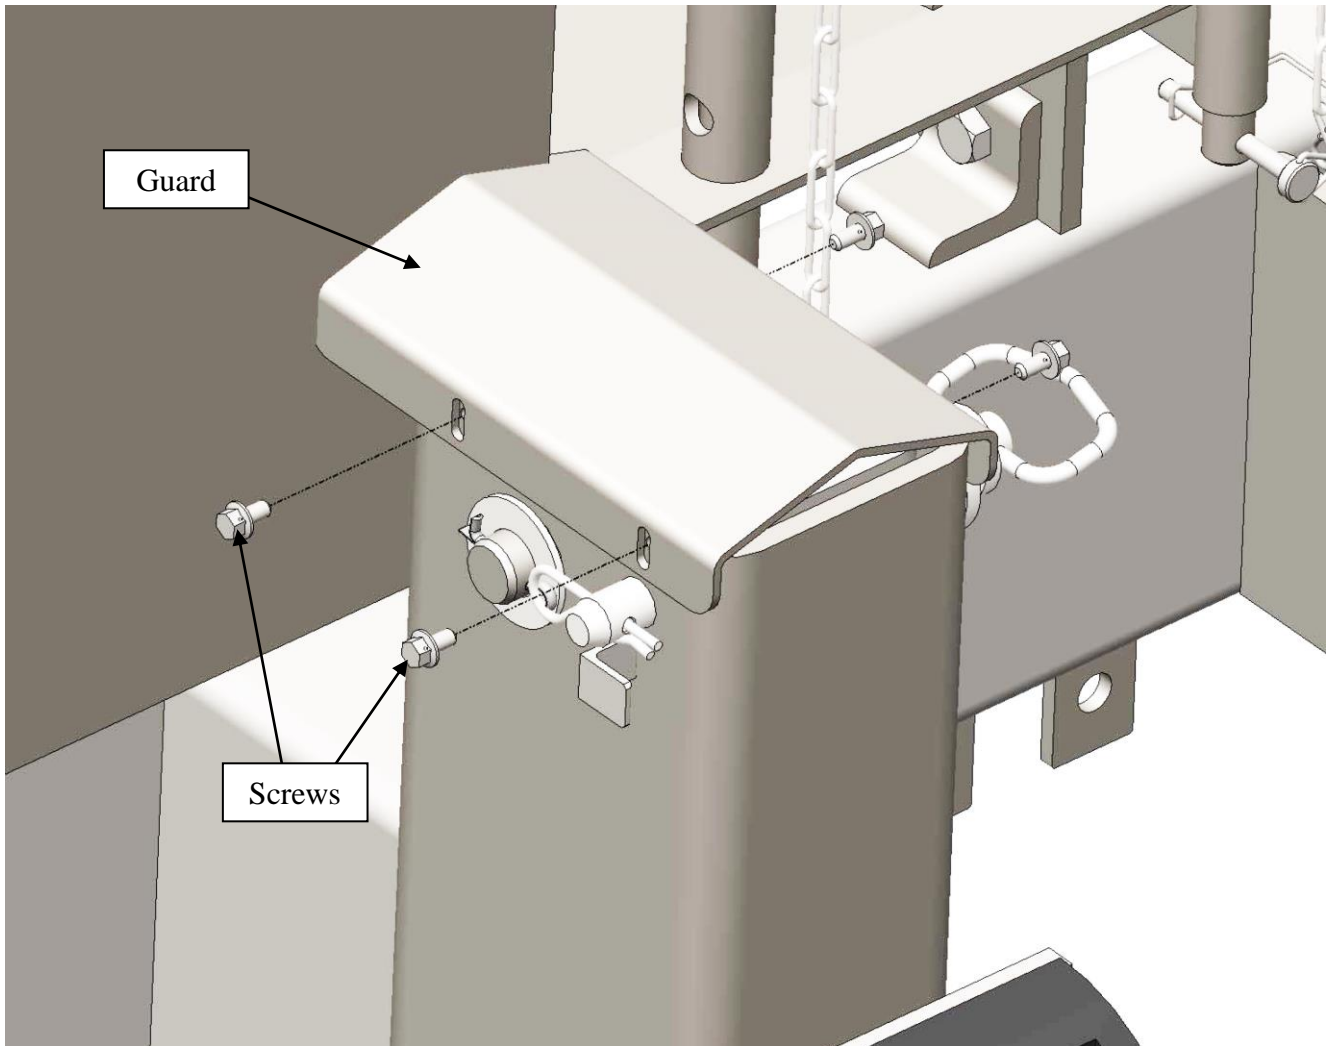

Figure 2 Jackstand Guard (2 places)
2. Install guards with the supplied .25-20 screws (see Figure 2).